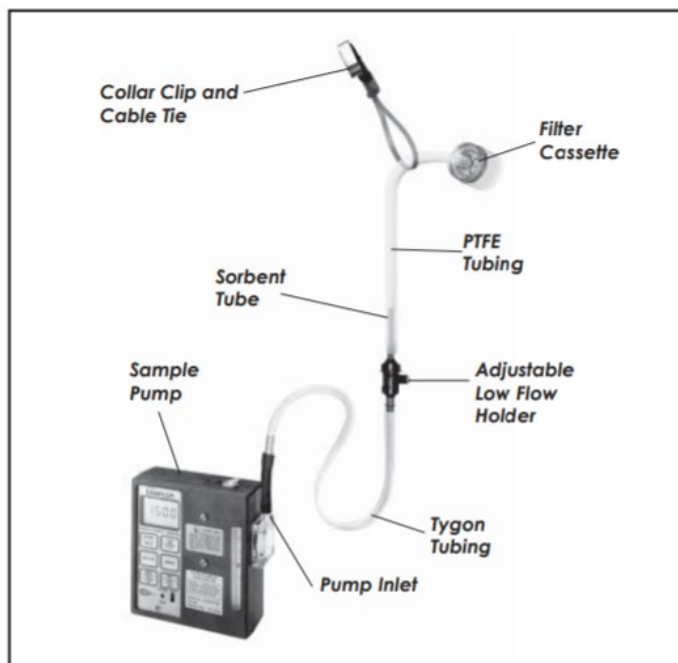

Figure 2. Sampling train using a pre-filter cassette and a sorbent tube
5. Sampling — Figure 2
When ready to start sampling, prepare a sampling train identical to the one used for calibrating the flow rate, but **without** the external calibrator. Insert a new filter cassette loaded with the appropriate spacer or stainless steel screen and filter and a new sorbent tube (Figure 2). Attach the cassette to a worker's clothing near the breathing zone and the pump to the worker's belt. **The inlet of the cassette should be facing down.** Remove the plug from the cassette inlet (if applicable). Turn on the pump and note the start time and any other sampling information.